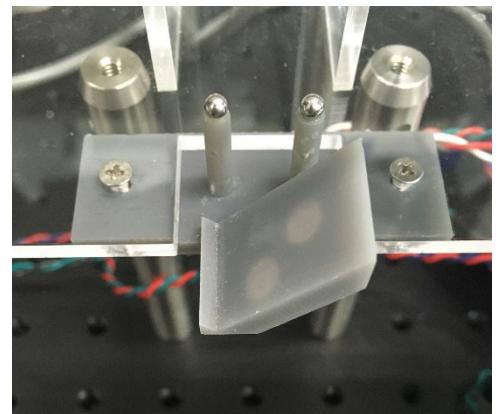

Figure 74 Touchposts and mirror mount installed
- See Figure 74 for the results of this step.